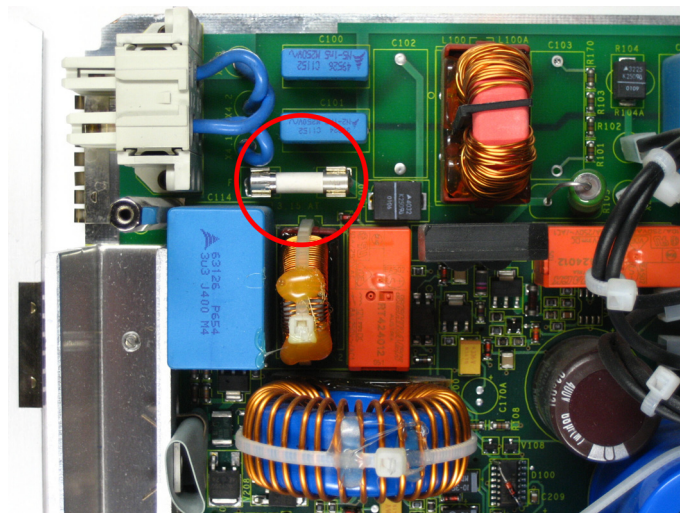

Figure 2-9 Miniature fuse F1
- The F1 miniature fuse is now accessible (see Figure 2-9).